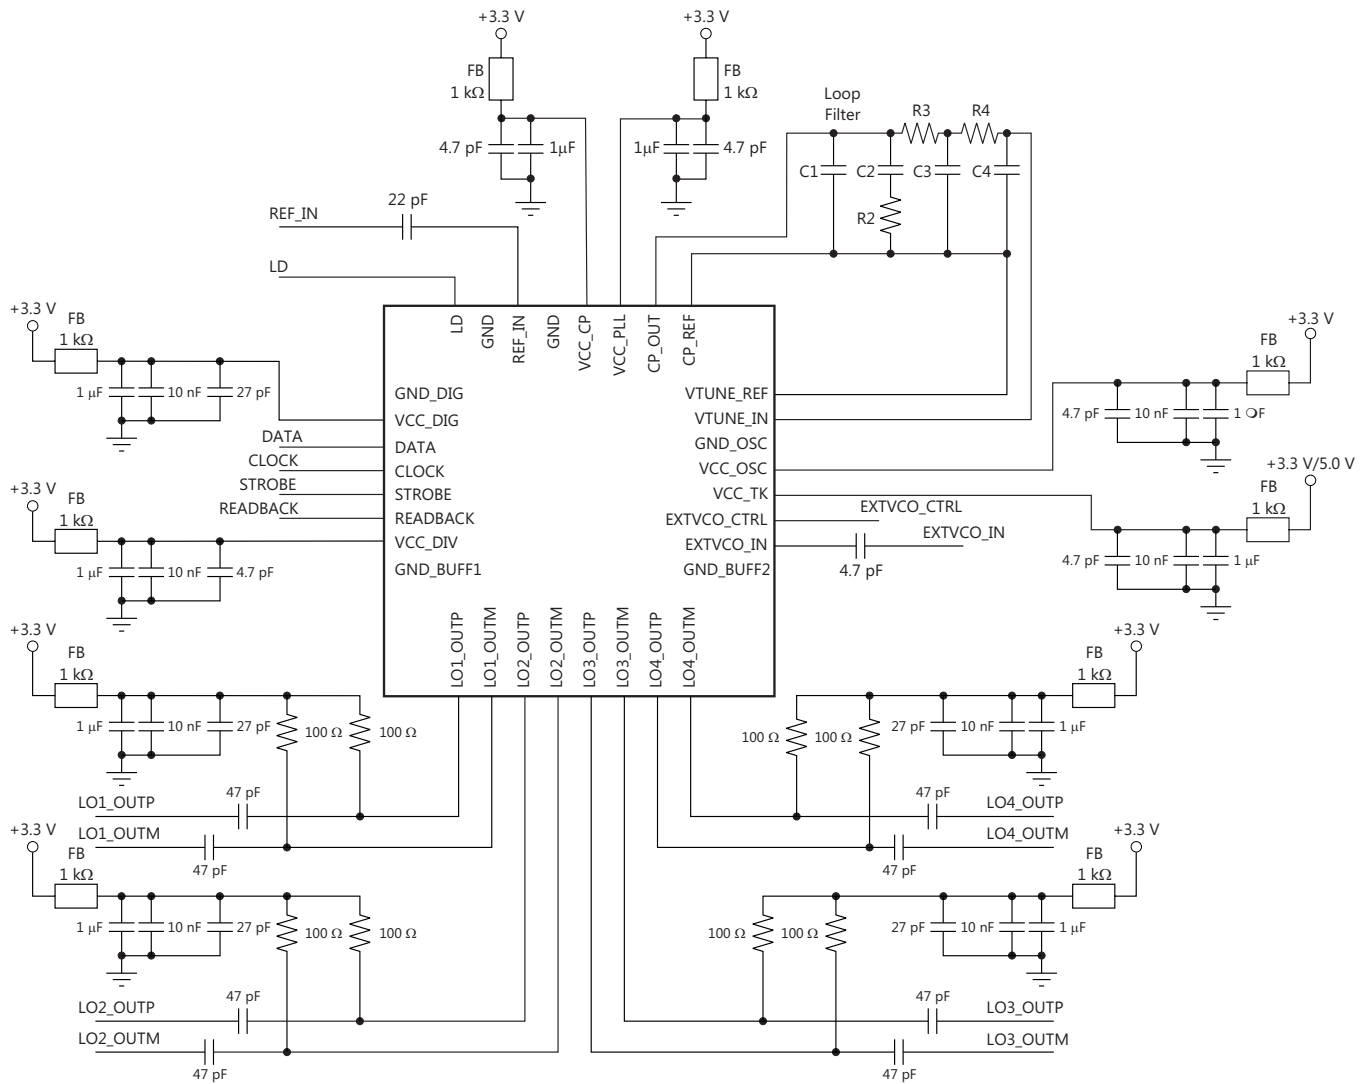

Figure 69. TRF3765 Application Schematic
Figure 69 illustrates a typical application schematic for the TRF3765. Table 21 lists the pin termination requirements and interfacing for the circuit.
- Changed VCC_OSC From: +3.3V/5.0V To: +3.3V, and VCC_TK From: +3.3V To: +3.3V/5.0V in Figure 69 **42**